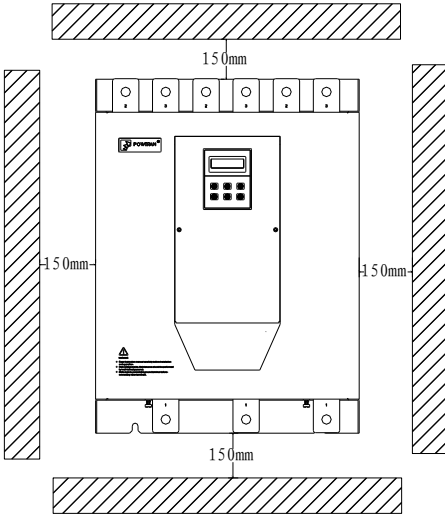

Figure 3.1
■ The installation direction and distance: in order to ensure that the soft starter in use with good ventilation and heat dissipation conditions, the soft starter should be installed vertically, and around the equipment left enough space for heat dissipation, as shown in Figure 3.1, Figure 3.2, the graph to allow the minimum distance.